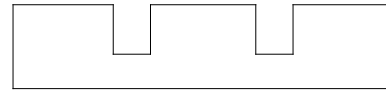

Figure 27
1. Manually close the door(s). If the interlocks prevent the door(s) from closing, it will be necessary to move them outward and shim (See Figure 27) behind them.